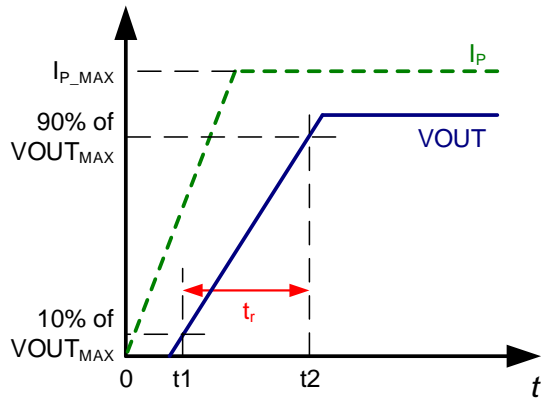

**Figure 6: Propagation Delay ( $t_{PD}$ )**
2.  $t2$ :  $V_{OUT}$  reaches 20% of  $V_{OUT\_MAX}$  (see Figure 6).